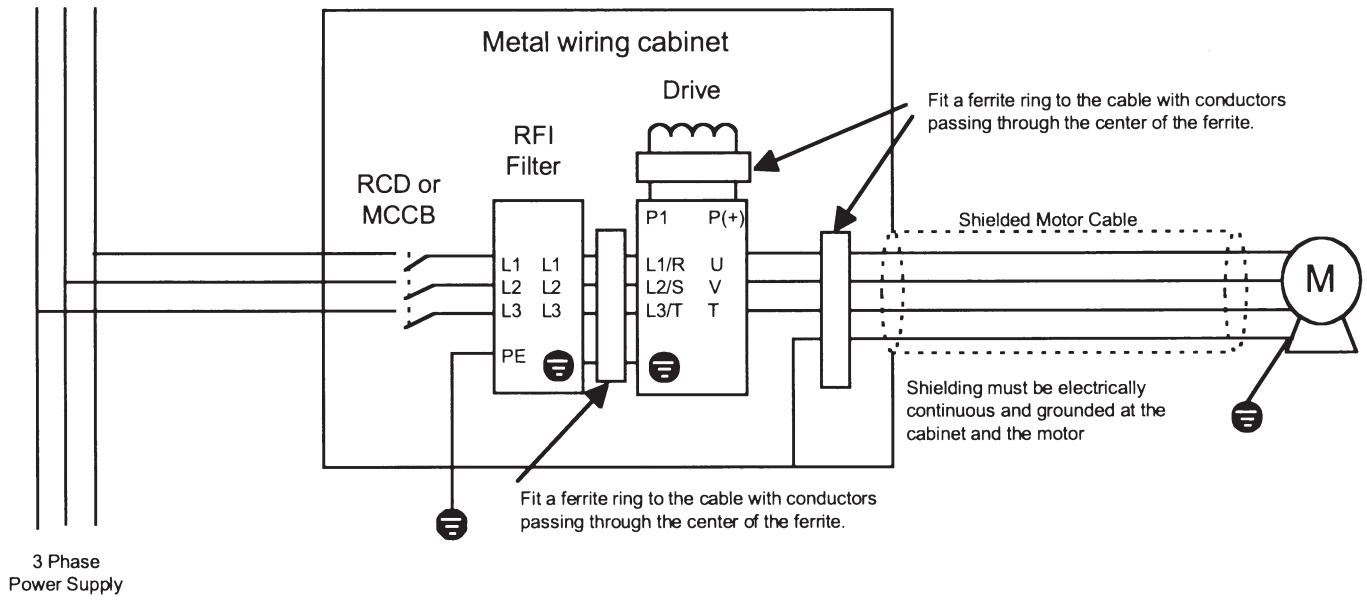

Figure 7 460V 400HP and higher
- 6) In the case where a ferrite ring is provided with the filter, fit the ferrite ring so the conductors pass through the center of the ferrite. Wire the cable according to Fig. 6 or Fig. 7, paying attention to the applied drive type.